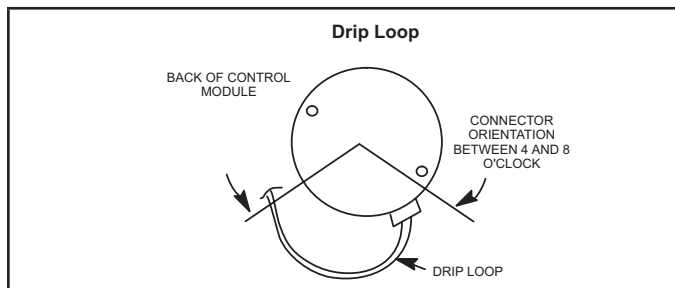

FIGURE 20
- 5 - The electrical connectors of the motor should be facing down to form a drip loop (FIGURE 20). This will direct moisture away from the motor and its electric connections on the motor.